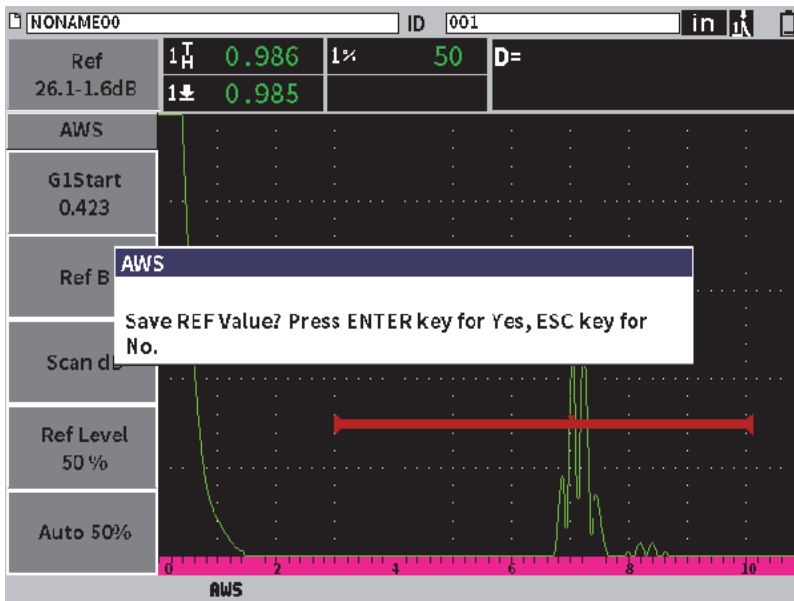

Figure 11-26 AWS Ref B value dialog box
9. Press the Tab key to highlight **Ref B**, and then press Enter to set a **Ref B** value to begin the AWS inspection (see Figure 11-26 on page 204).